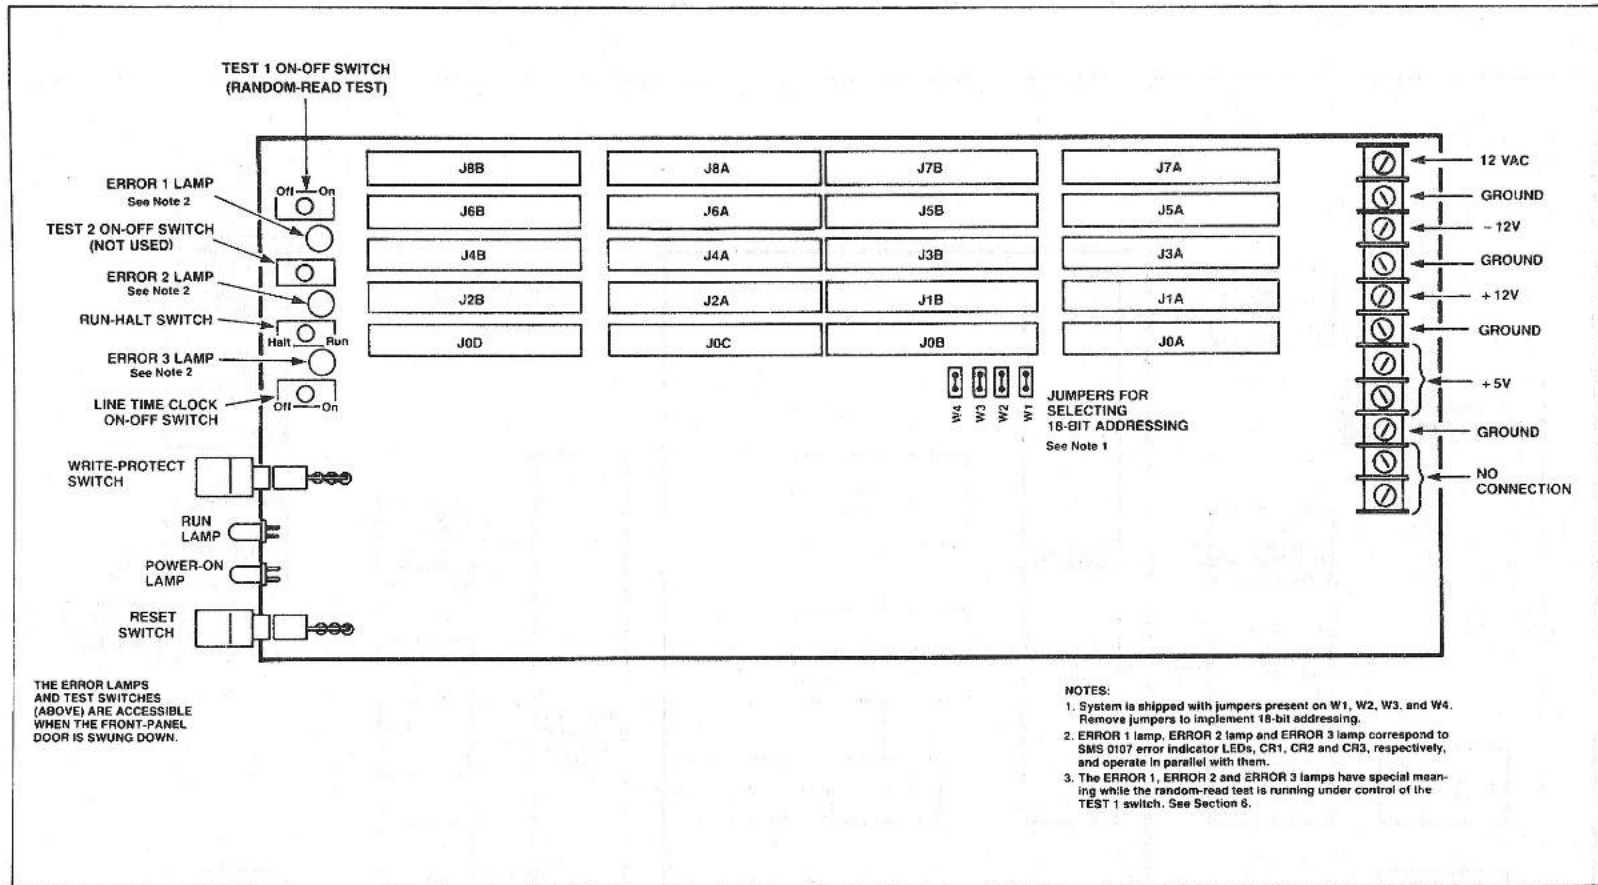

Fig. 1-4 SMS 1000 Model 30: Backplane
2. BACKPLANE. The backplane (see Figure 1-4) is a group of five quad-width board sockets connected together to operate as an LSI-11 bus. It contains the CPU, memory, and other modules that make up the basic SMS 1000 Model 30 microcomputer. The backplane can accommodate five quad-width Q-bus modules, 10 dual-width Q-bus modules or any combination of these. "Quad" and "dual" refer to the number of backplane connector sections required by a module; that is, quad occupy four connector sections and dual occupy two connector sections.
Modules such as CPU card, memory cards, interface cards, etc., are plugged into a common-circuit board called the backplane (Figure 1-4). The SMS 1000 Model 30 backplane consists of an LSI-11 22-bit Q-bus with five slots, each capable of taking one quad-height printed-circuit board or two dual-height printed-circuit boards. The backplane can accommodate any combination of dual- or quad-height cards.